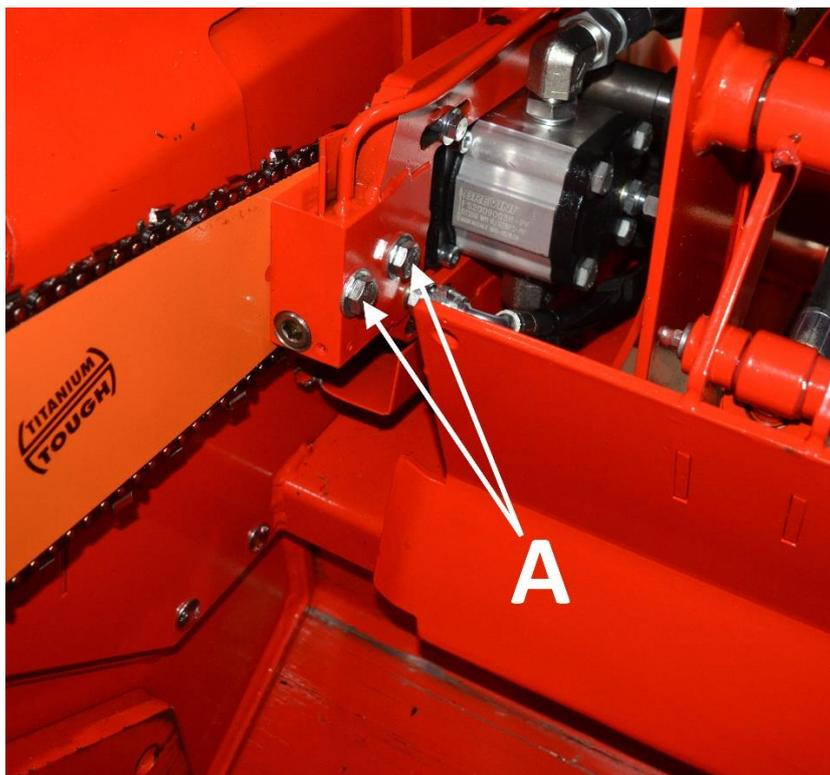

Figure 30.
2. Remove the beam's fastening bolts A (Figure 30).